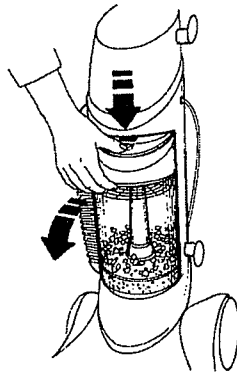

Figure 14
6. Press down on the Handle at the top of the Collection Bin. Pull outward until the Bin releases from its locked-in storage position inside the Storage Compartment. (See Figure 14.)